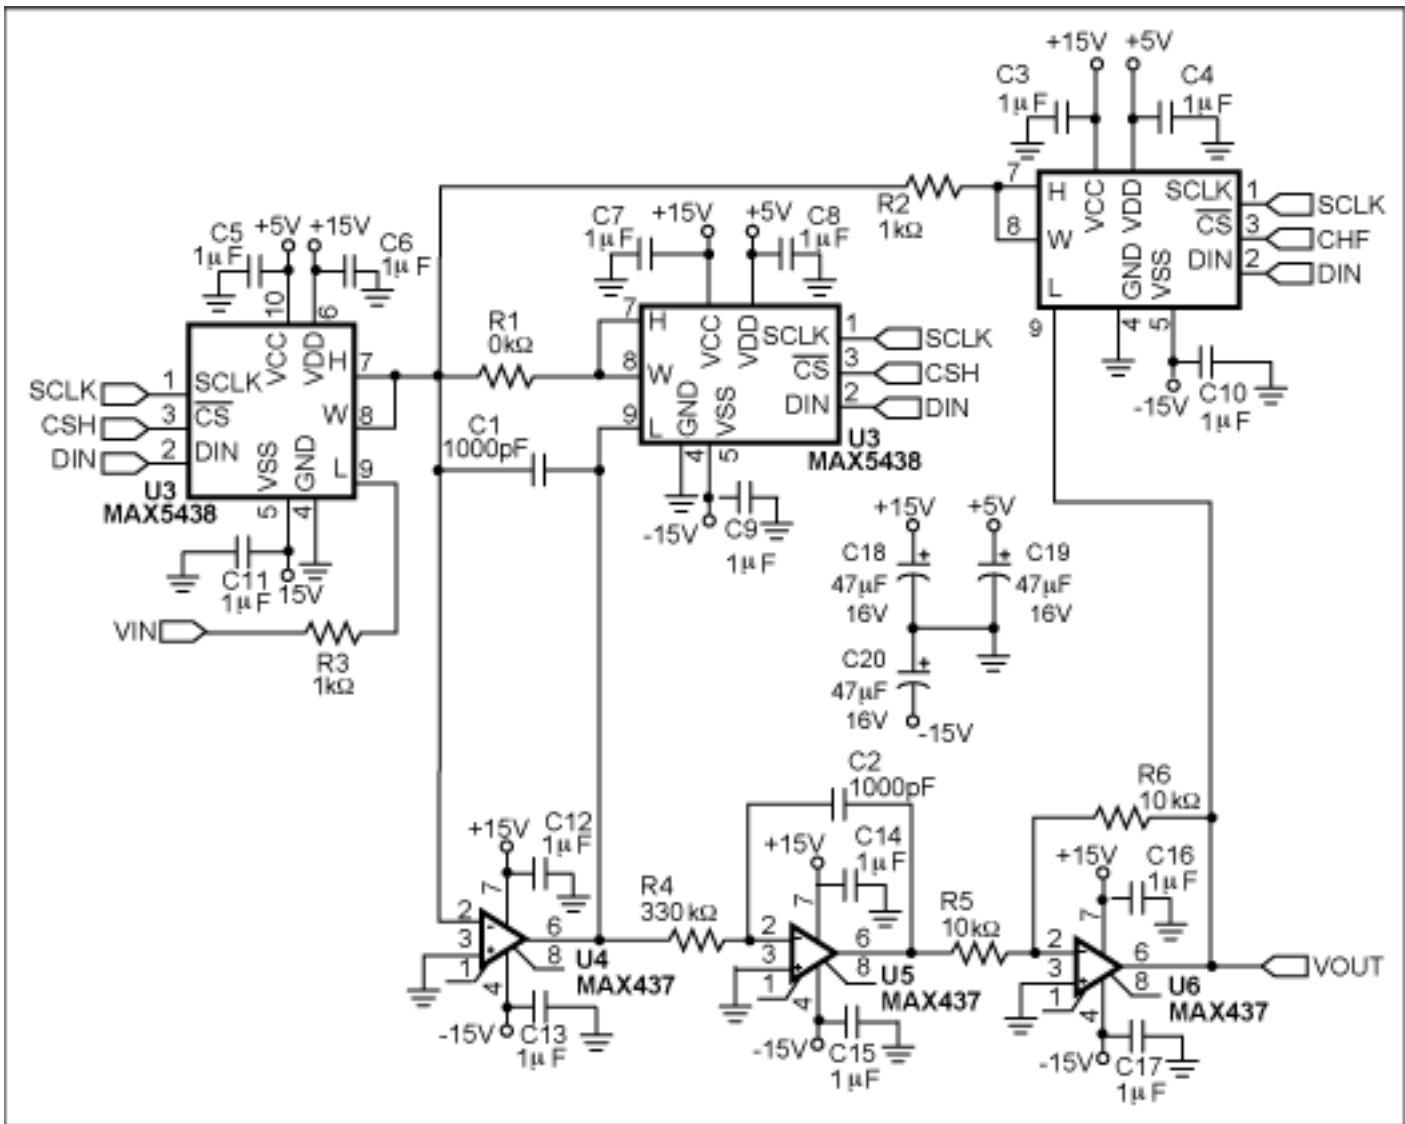

Figure 1. Digital potentiometers adjust the corner frequency, Q , and gain for this biquad analog filter.
Of the many types of analog filters available to electronics engineers, few allow easy adjustments of the filter parameters. The biquadratic (biquad) filter is an exception, however. You can change this filter's corner frequency (ω_0), quality factor (Q), and gain (H) by adjusting the values of three resistors. To illustrate this adjustment, the lowpass biquad circuit of **Figure 1** includes three digital potentiometers configured as variable resistors in the feedback loops. Altering the settings of these digital pots changes the filter characteristics.
The Figure 1 circuit is substantially more complex than the switched-capacitor approach usually integrated into an IC. However, the switching noise and low bandwidth of a switched-capacitor filter are unacceptable in many applications (**Figure 2**). A biquad filter offers better frequency and noise performance in exchange for more PC-board space. And, because monolithic switched-capacitor filters are usually expensive, the biquad circuit of Figure 1 may not represent an increase in cost.
Figure 2. Noise and low bandwidth plague switched-capacitor filters, but biquad filters can operate at higher frequencies, as they are not limited by capacitor switching speed. The biquad filter of Figure 1 maintains less than 1% THD+N over the 20Hz to 200kHz range.